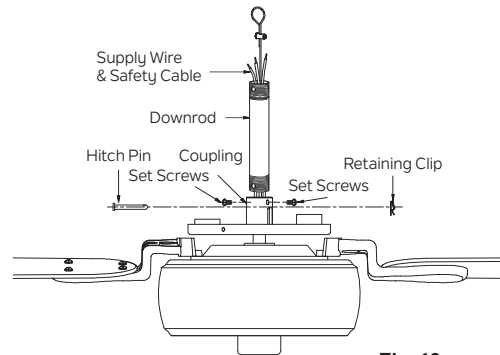

Fig. 10
**Step 7.** Loosen the two set screws and remove the hitch pin and retaining clip from the coupling on the top of the motor assembly. (Fig. 10)